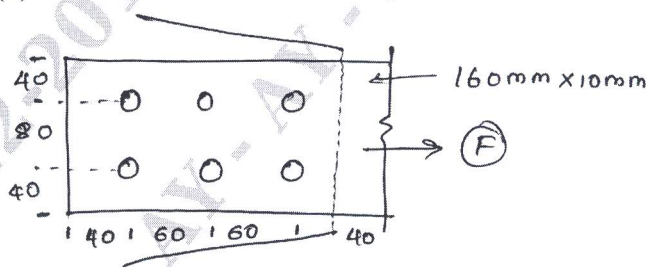

Fig. Q6 (b)
b. Determine the strength of the plate 160mm × 10mm connected with bolts subjected to a force as shown in Fig. Q6 (b). Use M₁₈ dia bolts. (08 Marks)